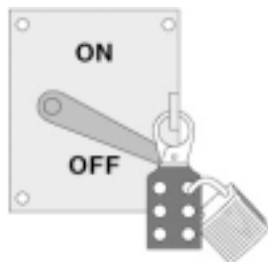

Figure 9.3: Lockout Device
**OSHA standards** require each facility to have a **lockout/tagout** plan. The most effective way to protect operators or maintenance personnel is to use a lockout device (Figure 9.3) or an energy-isolating device.